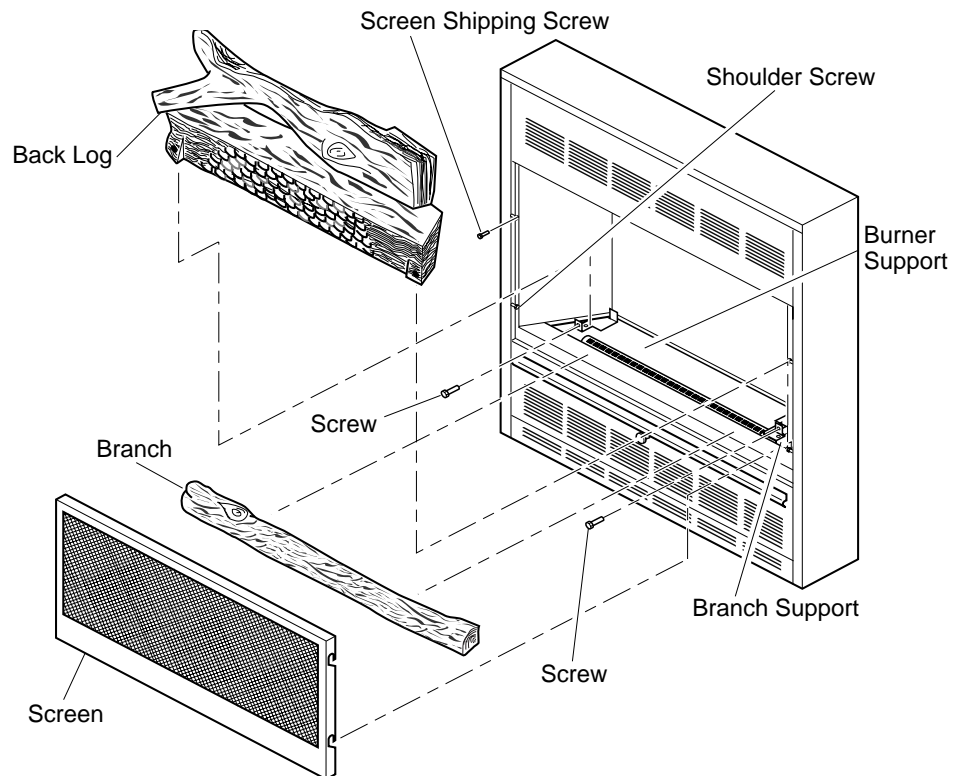

Figure 2 - Assembling Fireplace
2. Remove two shipping screws above screen (see Figure 2).
5. Gently place back log on burner support (see Figure 2). The log should fit flat against top of burner support. Place two #10 one-inch-long screws through burner support into the log and tighten. Place branches on branch support (see Figure 2).